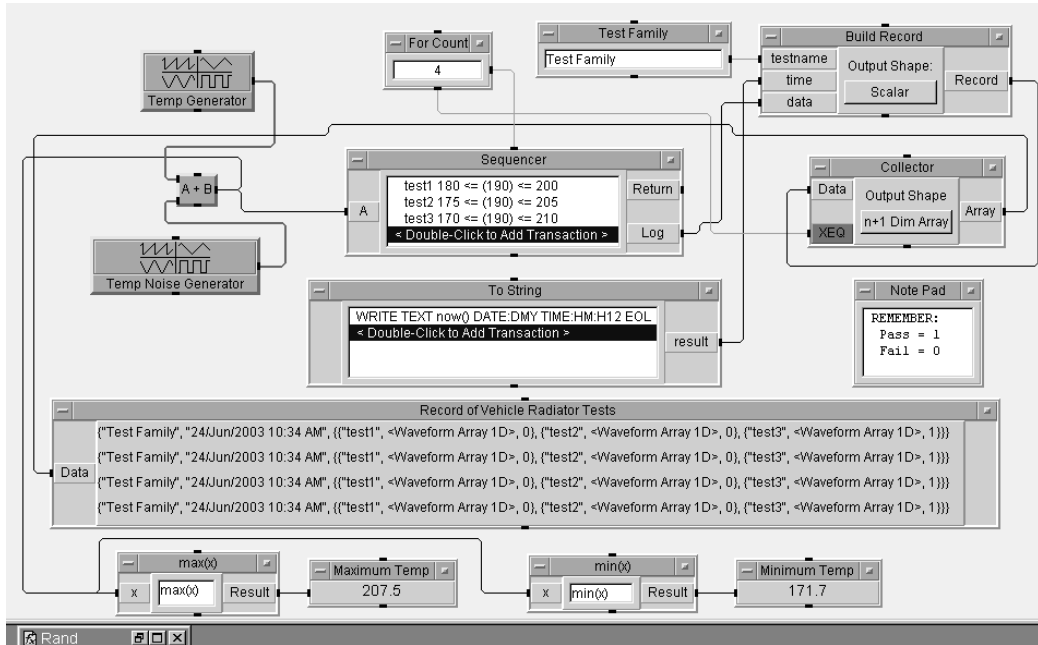

Figure 16.8. LAB 16.3 after running
38. Run this program; it should like Figure 16.8.